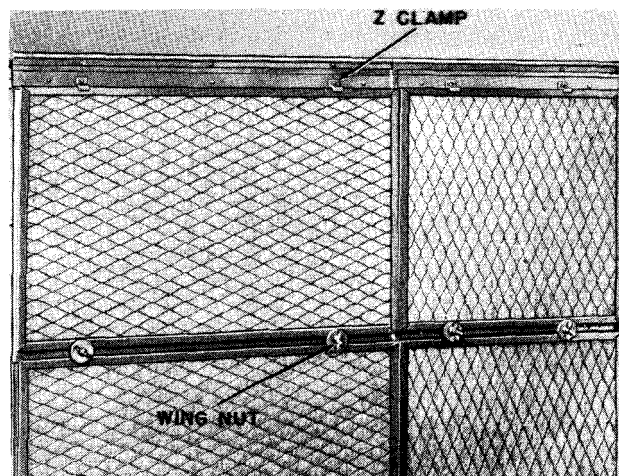

Fig. 34. Installation of Filters
**Air Filter Clamps** are installed on the top plate raceway covers at the outlet air side, using the long sheet metal screws supplied with the filter hardware. See Fig. 34.